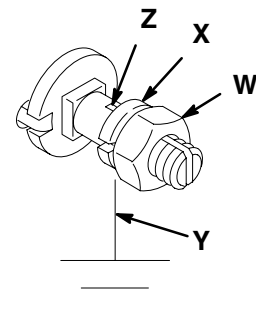

Fig. 2
**To ground the pump,** loosen the grounding lug locknut (W) and washer (X). Insert one end of a 12-ga (1.5 mm2) minimum ground wire (Y) into the slot in the lug (Z), and tighten the locknut securely. Connect the other end of the wire to a true earth ground. See Fig. 2. *To order a ground wire and clamp, order Part No. 222011.*